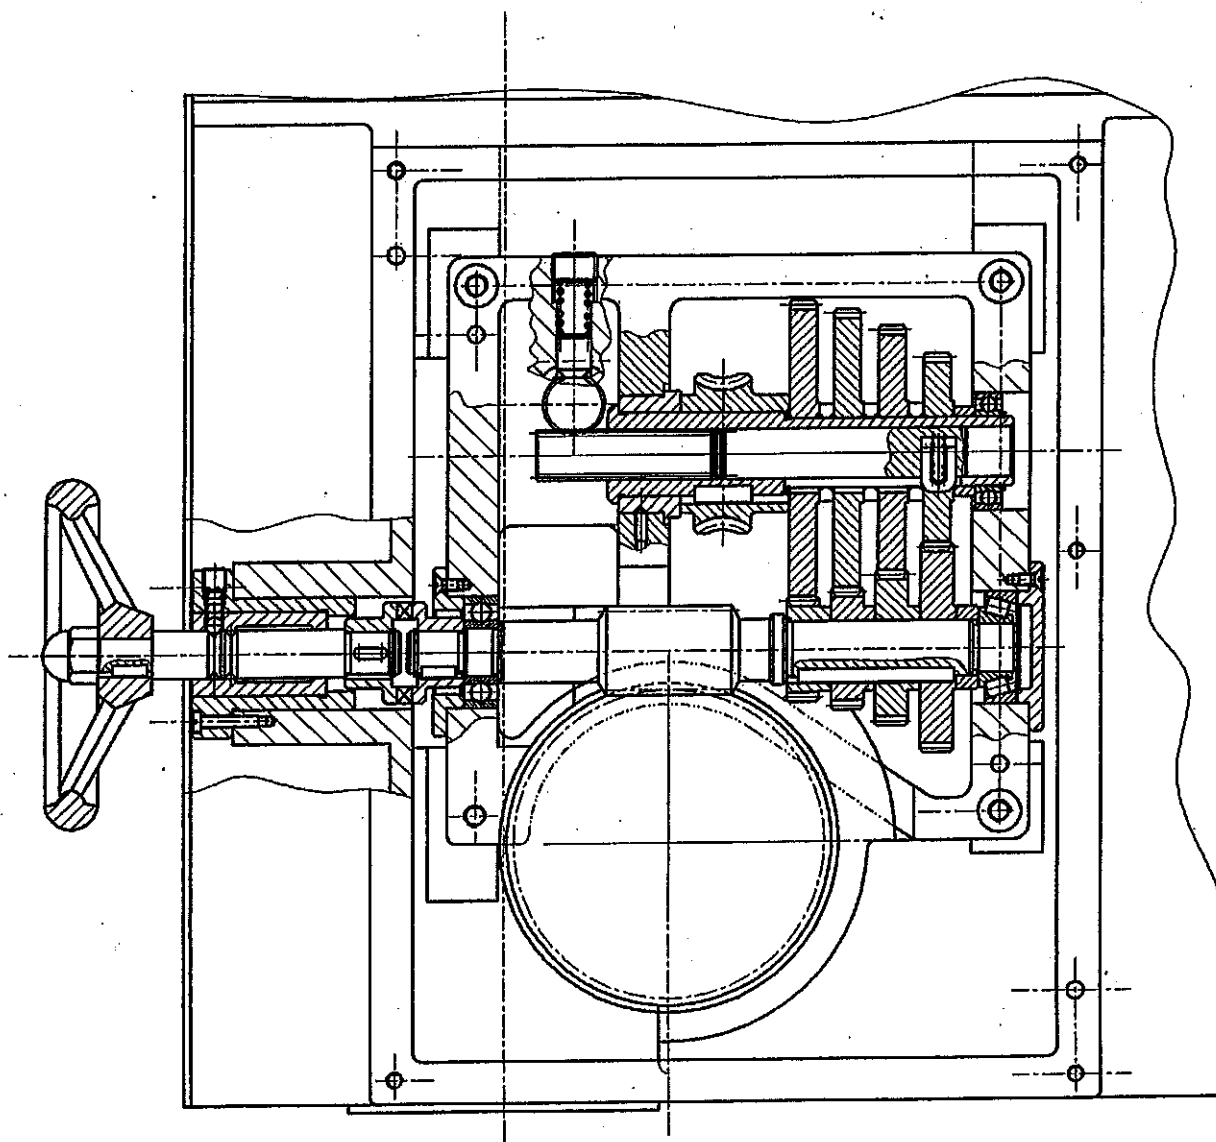

Fig. 12 Feed Gear Box
11.3 Expand View of Feed Gear Box (Fig.12)